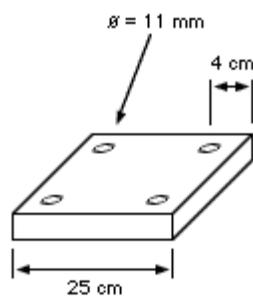

Figure 1
4. Place a dowel of the required diameter on the strip of paper, perpendicular to the strip, as indicated in figure 1.